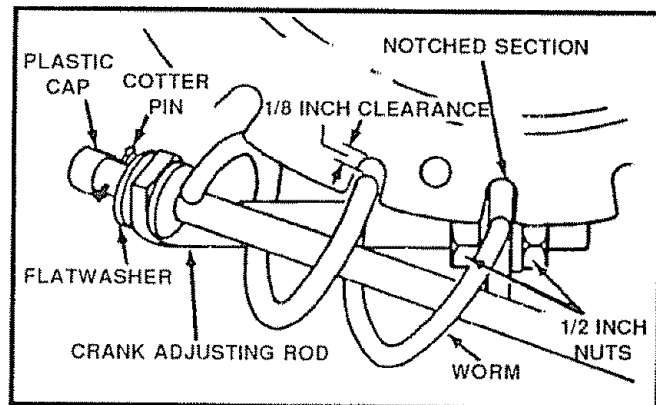

FIG. 5
- Remove the plastic bag, plastic cap, cotter pin and washer from the crank assembly and set aside (See Fig 5).
- Rotate the notched section of the discharge chute toward the crank-adjusting rod (See Fig 5).
- Install the wormed end of the crank through the hole in the crank adjusting rod and secure the end with the flat washer and cotter pin, as shown in Fig 5.
- Bend the ends of the cotter pin around the rod and reinstall the plastic cap (See Fig 5).
- Rotate the chute crank fully clockwise and fully counter-clockwise. The discharge chute should rotate fully to the outer diameter of the worm and should clear approximately 1/8" (See Fig 5).